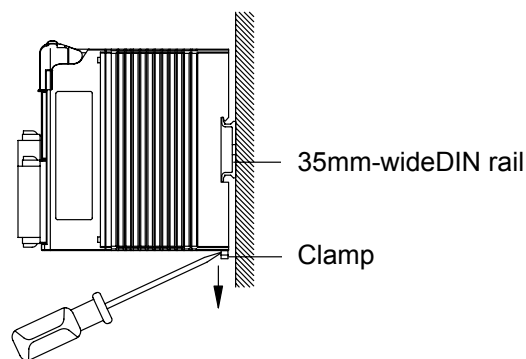

Fig. 3.5 Removing
2. Pull the clamp until you hear a click, as shown in Fig. 3.5.